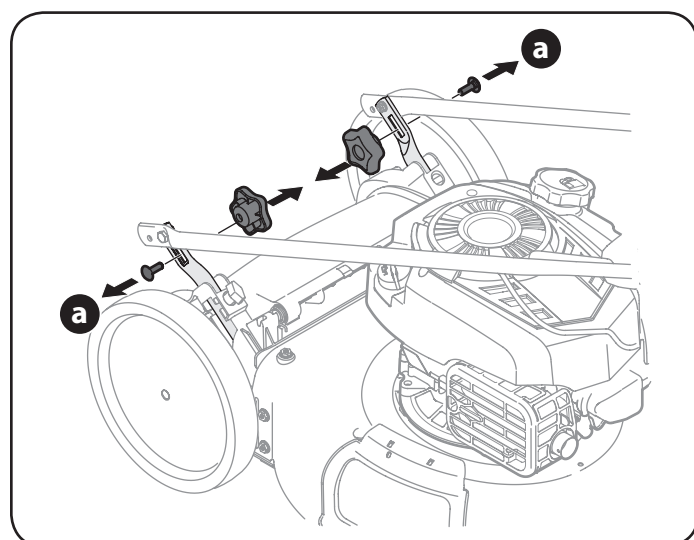
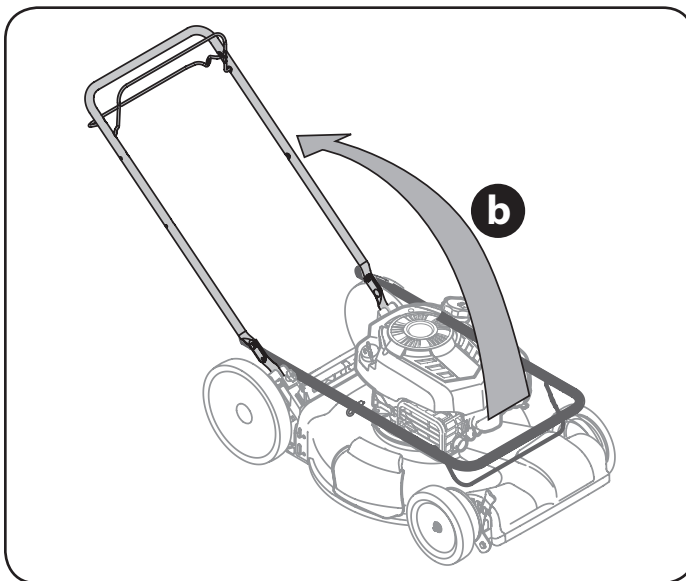

Figure 1
Figure 2
3. Align either side of the slope gauge with the object (See Figure 1 and Figure 2).
4. Adjust gauge up or down until the left corner touches the slope (See Figure 1 and Figure 2).
5. If there is a gap below the gauge, the slope is too steep for safe operation (See Figure 2 above).
- a. Remove wing nuts and carriage bolts handle as shown in Figure 1. Do not loosen or remove adjacent hex head screws.
- b. While stabilizing mower so it doesn't move, pivot upper handle up as shown in Figure 2. Do not crimp cable while lifting the handle up.